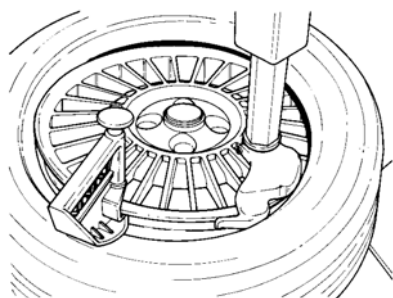

Fig. 4.2-4
C. Mount the upper bead following the directions in section B. With low profile tires the bead holding clamp (option EAA0247G70A Fig. 4.2-4) can help to prevent the top bead from prematurely seating during the mounting cycle.
Follow these instructions using the Bead Holding Clamp (Fig. 4.2-4).
- Position the bead clamp #EAA0247G70A to hold the tire bead into the rim drop centre (Fig. 4.2-4).